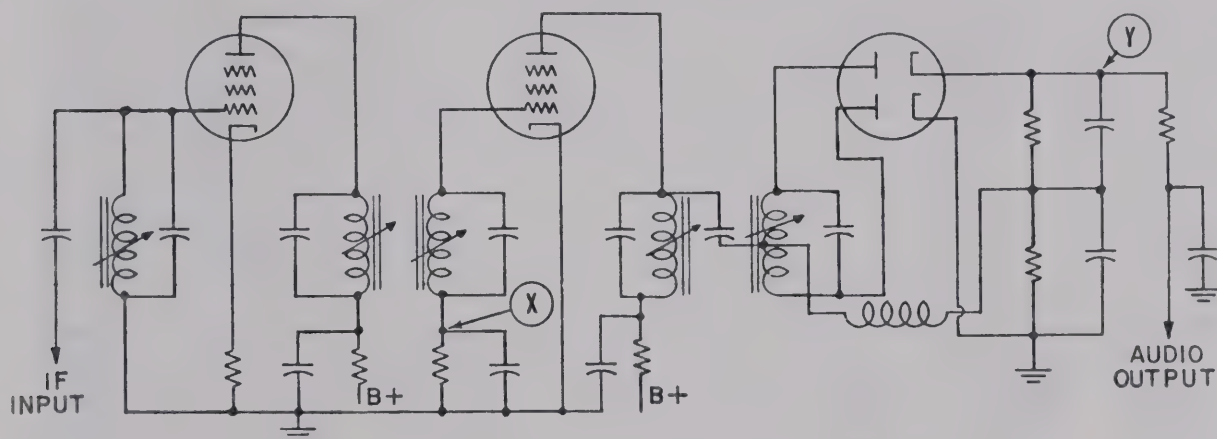

Figure 2-7. Typical Sound IF Amplifiers and Foster-Seeley Discriminator
c. Connect the oscilloscope with a series isolation resistor of approximately 27,000 ohms to point marked "Y" on the schematic wiring diagram which most closely approximates that of the TV receiver being serviced. See figures 2-7 or 2-8. Phase the response curve and turn blanking ON.
on the typical wiring diagram which most closely approximates that of the TV receiver being serviced. See figures 2-7 and 2-8.